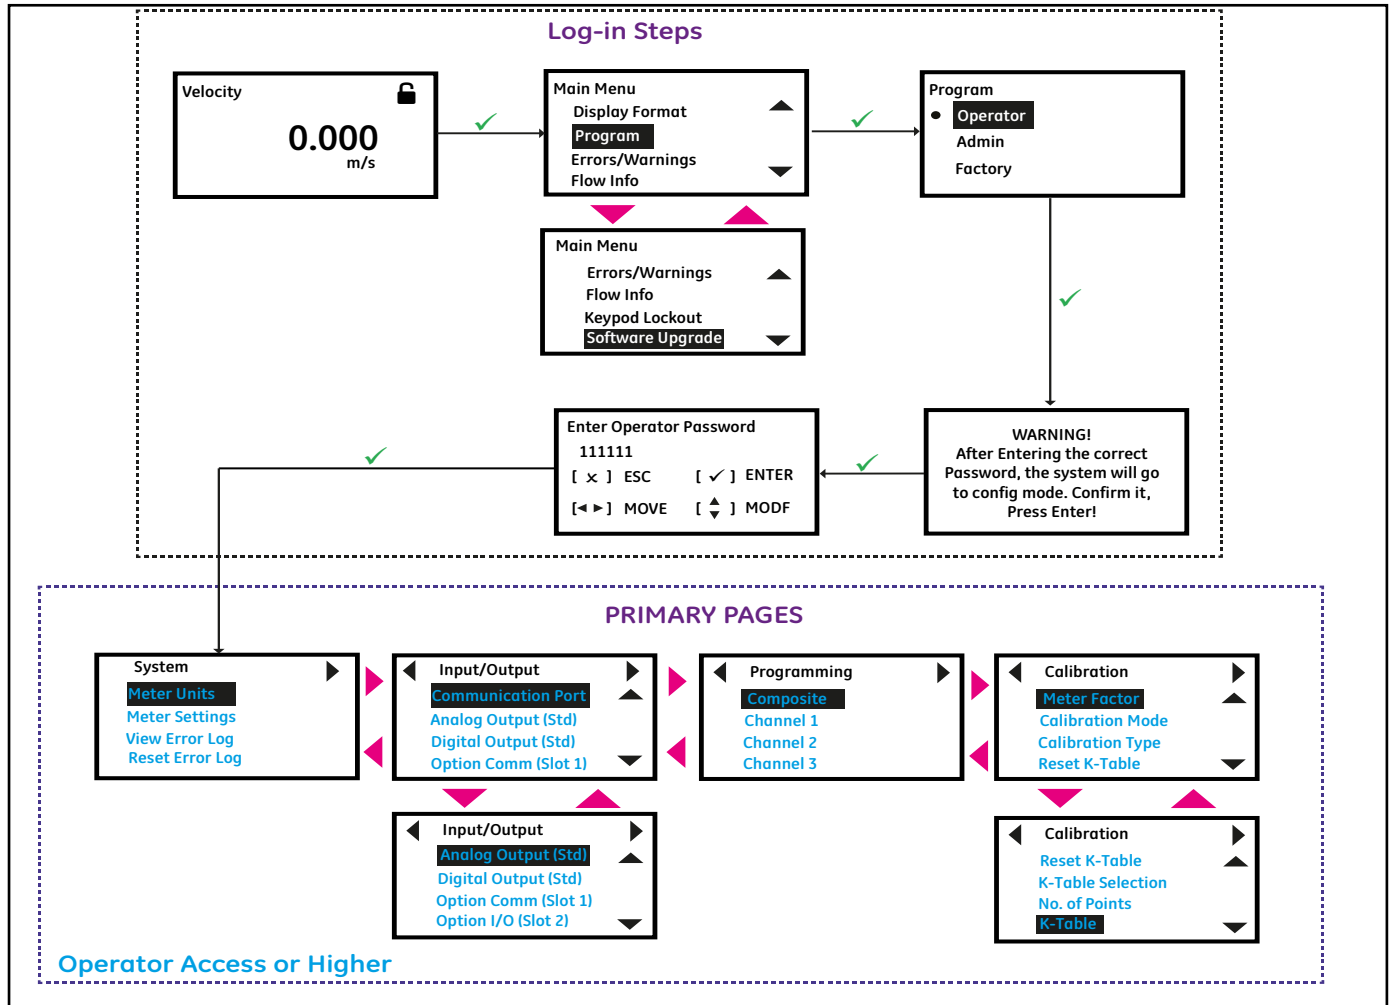

Figure 19: Log-in Steps and Primary pages
5. After completing the log-in steps you will see the primary pages as shown in the Figure 19. To move from one page to the next, press [◀] or [▶] and to scroll to options within a page press [▲] and [▼].